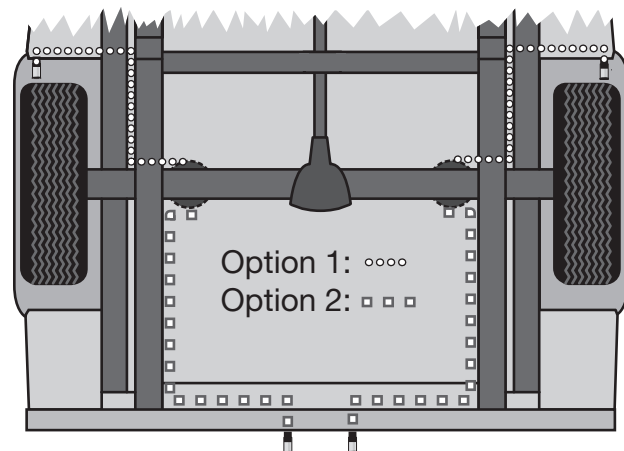

fig. 15
4. Place a 5/16" nut and star washer on the air valve. Leave enough of the inflation valve in front of the nut to extend through the hole and have room for the rubber washer, flat washer, and 5/16" nut and cap. There should be enough valve exposed after installation – approximately 1/2" (13mm) – to easily apply a pressure gauge or an air chuck (Fig. 15).